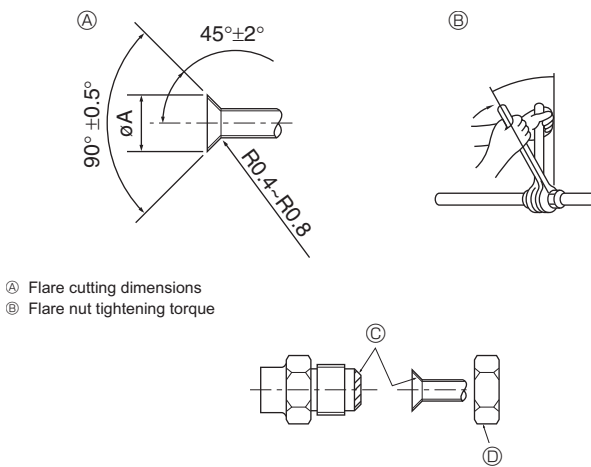

Fig. 4-1
4.2. Connecting pipes (Fig. 4-1)
- Apply thin layer of refrigerant oil to pipe and joint seating surface before tightening flare nut. ①
- Use 2 wrenches to tighten piping connections. ②
- Apply refrigerating machine oil over the entire flare seat surface. ③
- Use the flare nuts for the following pipe size. ④
① (Fig. 4-1)
② (Fig. 4-1)